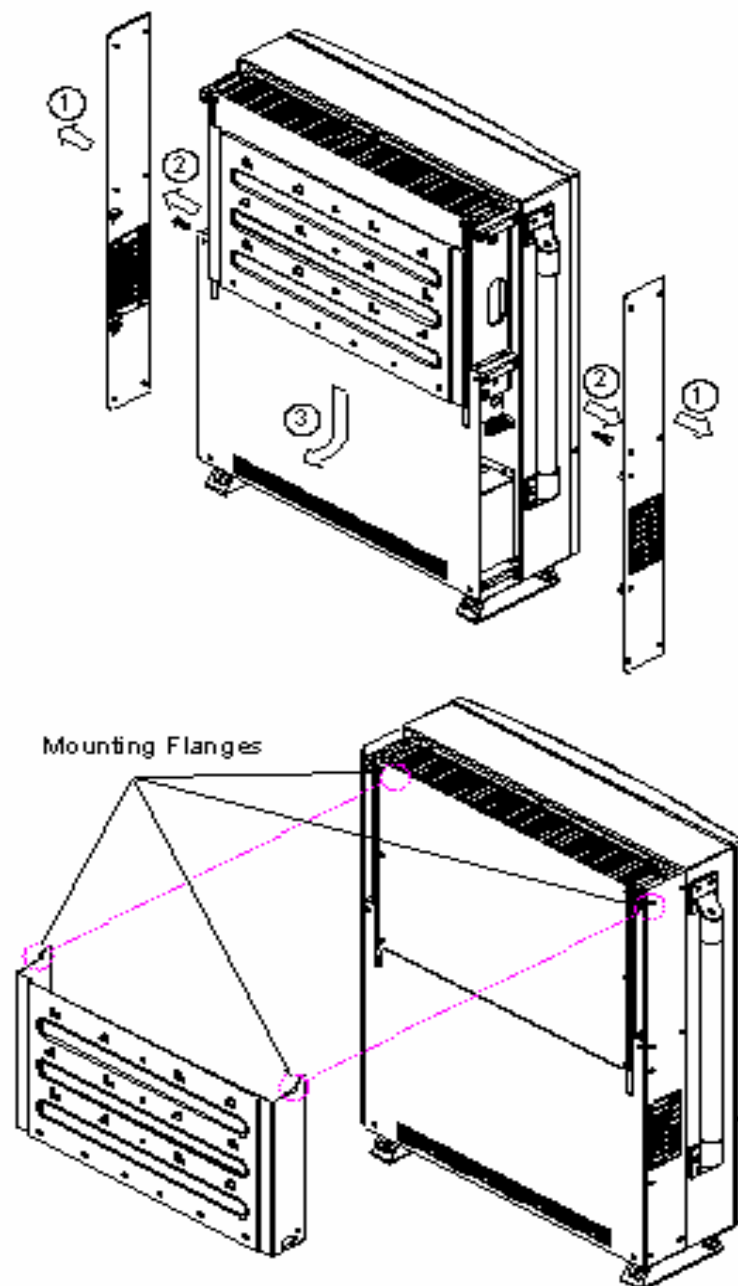

Fig 2.2.1 To remove the mounting bracket from the inverter
1. After taking out the inverter from the carton, the attached mounting bracket shall first be removed from the inverter by following the steps shown in Fig 2.2.1 below.